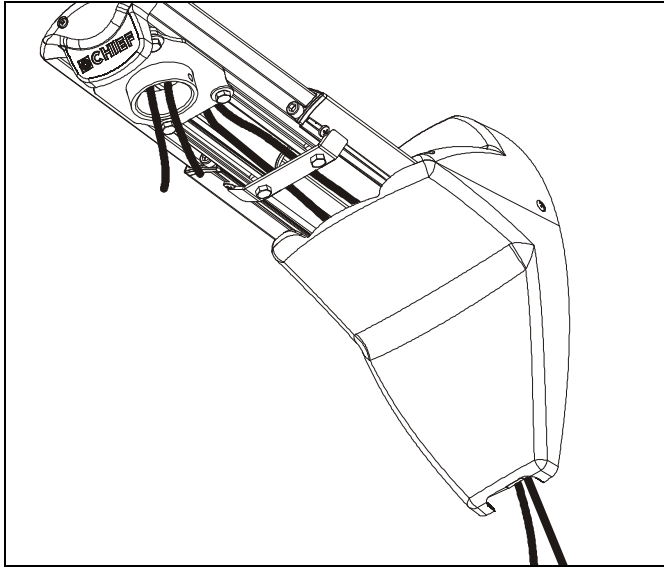

Figure 18
- Route projector cable(s) under mount cover and through WMA1S arm. (See Figure 18)